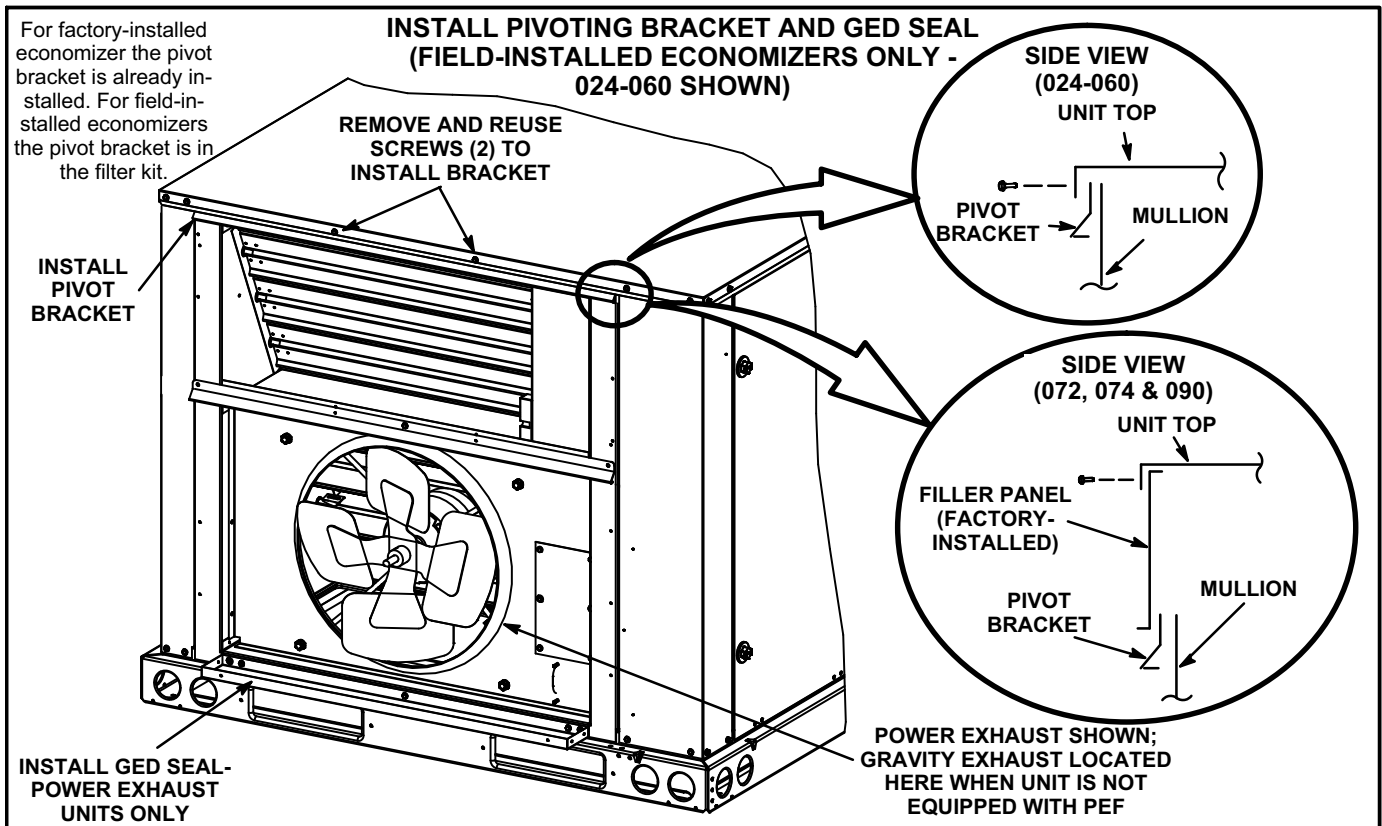
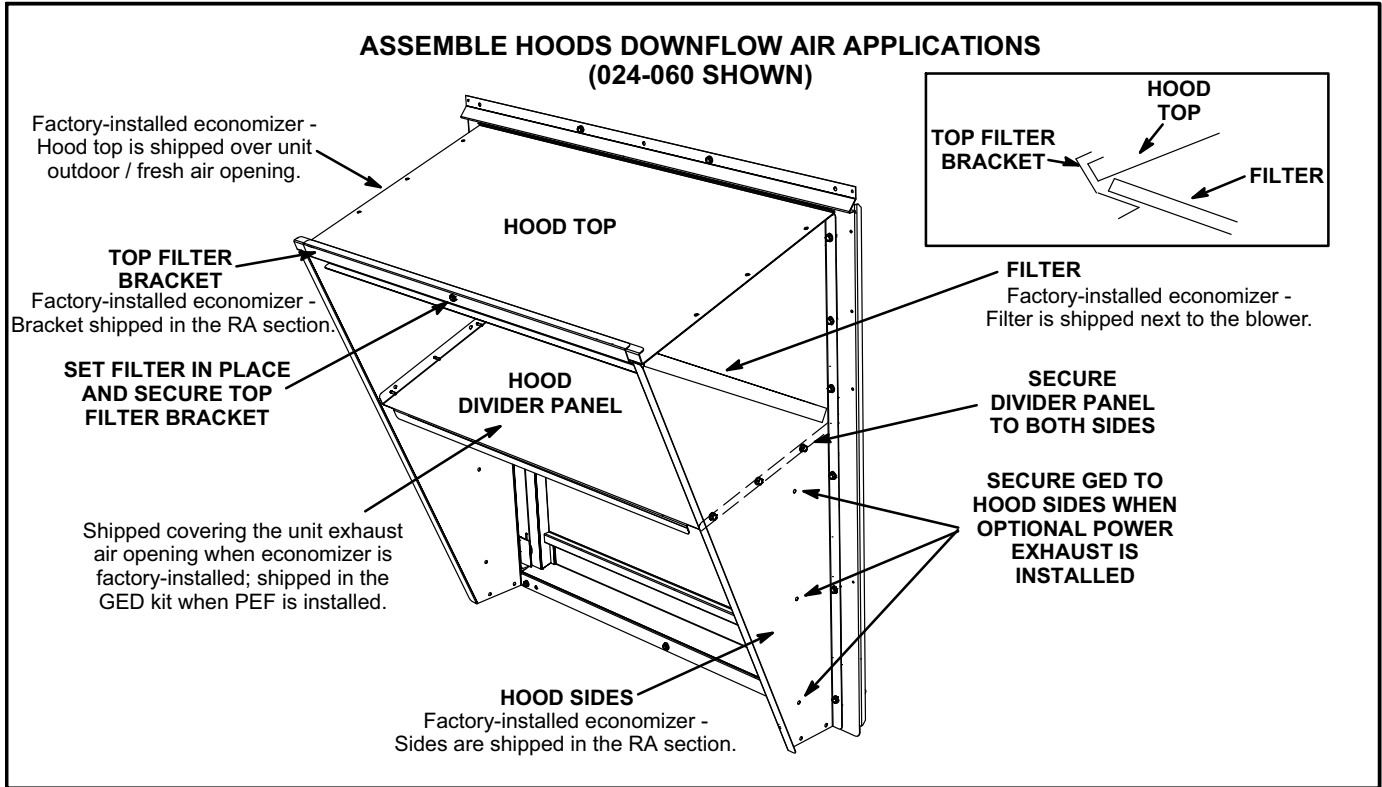

FIGURE 9
FIGURE 10
- 2- Install the power exhaust fans and GED seal in the unit. See figure 9 and the power exhaust instructions. See the next section to install the outdoor/exhaust air hood. Install the GED in the lower/exhaust hood. See figure 10.
- 2- Install pivot bracket as shown in figure 9.
- 3- Assemble hood as shown in figure 10. Slide top of hood into the ends of pivot bracket. Install top filter bracket after filter is in place.